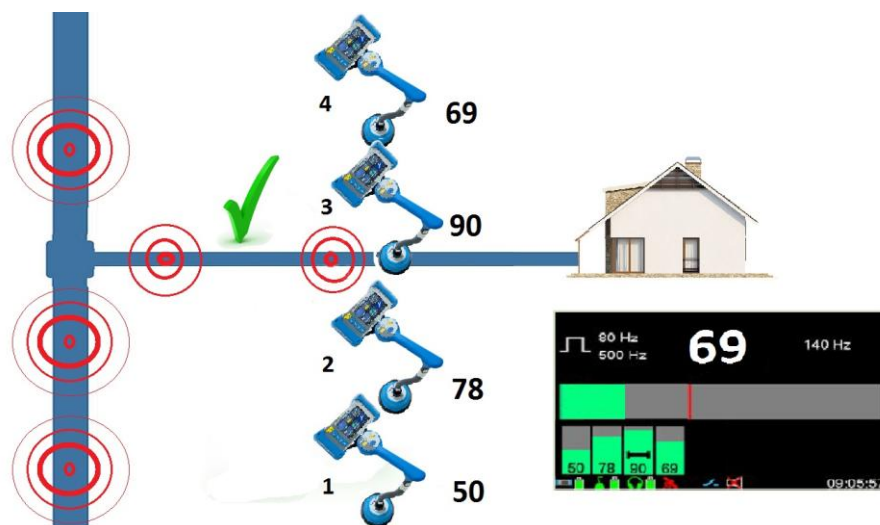

Fig.2.
5.4. The parameters and the working process are indicated using a TFT color display ("5" in Fig. 2).
Figure 2 shows an example of locating an unknown hidden house connection in the main pipeline using signals from a Metronome Generator and a SebaKMT HL7000 ground microphone.